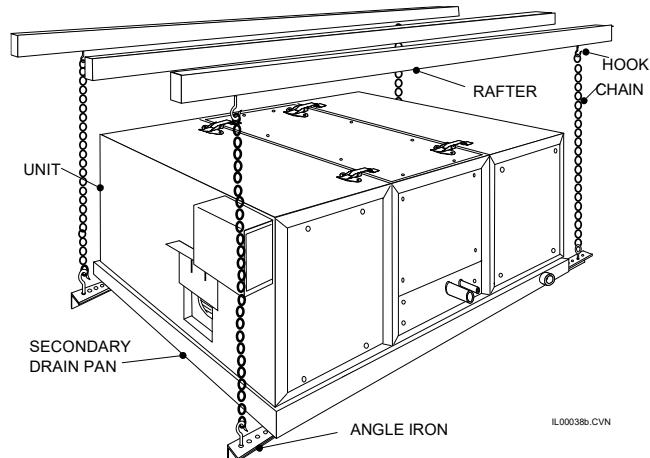

Figure 14a. Typical Suspended Mounting
Horizontal Suspended Mounting. The modules can also be suspended from the ceiling or rafters. A typical suspension method is shown in Fig. 14a. Screw four (4) "J" hooks into rafters. Suspend four (4) chains from "J" hooks and attach eyebolts to chains. Secure angle iron to eyebolts and place secondary drain pan on top. Put isolation pads in drain pan, making sure unit sits above sides of drain pan.